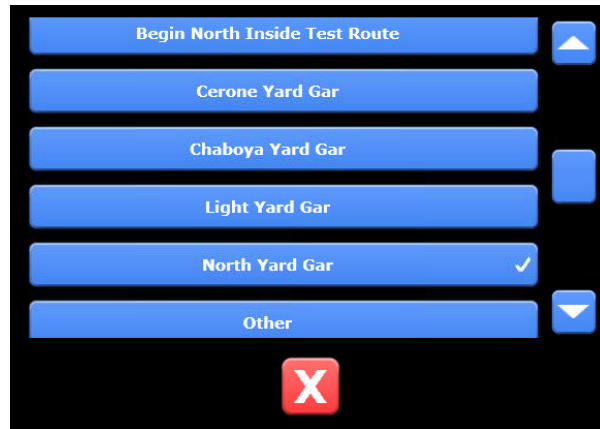

Figure 3.5 — Sample Home Terminal/Work Location List
5. **Home Terminal/Work Location** - The location of the vehicle at the beginning of your current work. This field is automatically filled, but you can change it manually by tapping it and selecting a location from the list that appears. Figure 3.5 shows one example of such a list. The **Other** option allows you to type a custom location with an alphanumeric keypad.